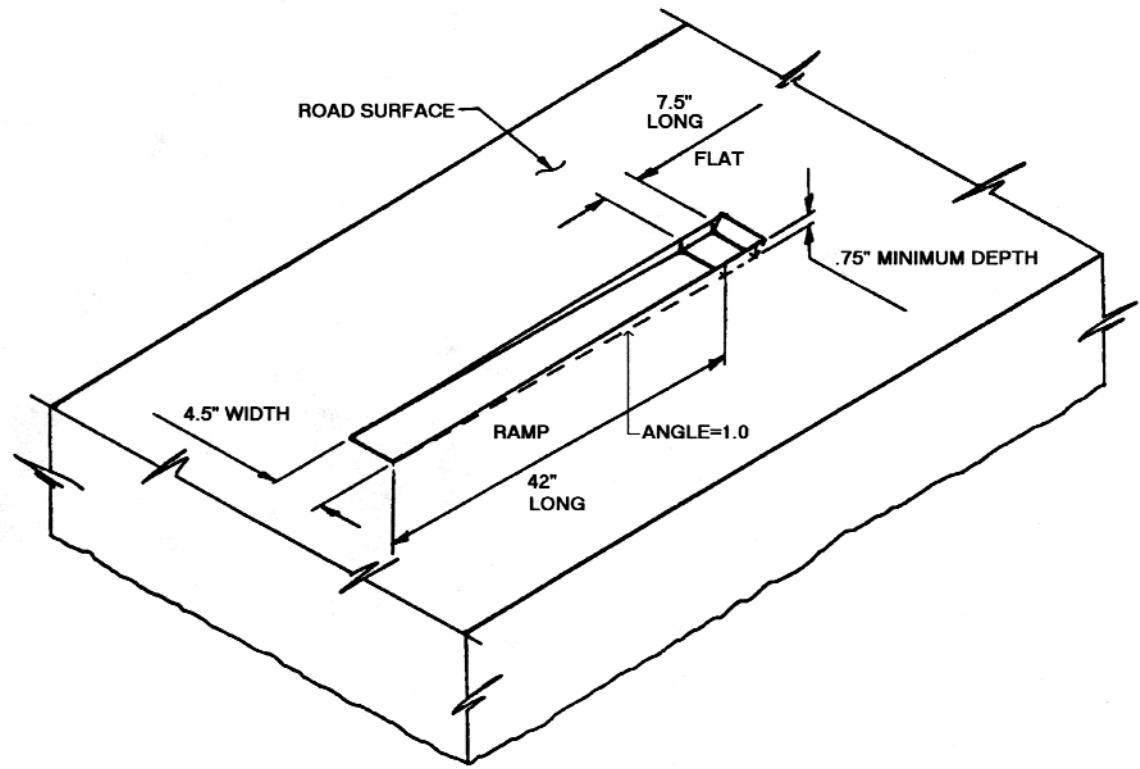

Figure 1 - One Way Marker Application
3. Groove depth - Tapered to a depth of 3/4 inch (1.9 cm) minimum. Typically, the range of depth for the groove is between 0.75 inches (1.9 cm) and 0.90 inches (2.3 cm). The height of the marker plus adhesive pad should not exceed the top of the pavement surface. The slope of the groove is 1.0 degree and the length of the ramp to the application surface is 42 inches (1.07 m) (**See Figures 1, 2, and 3**).